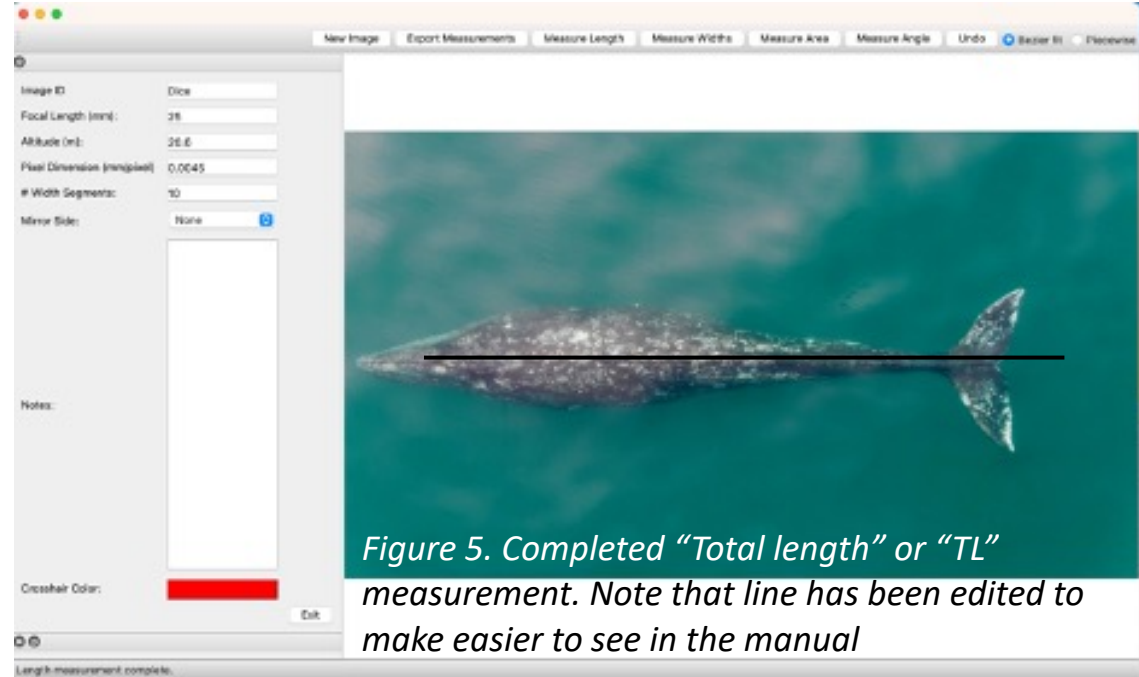
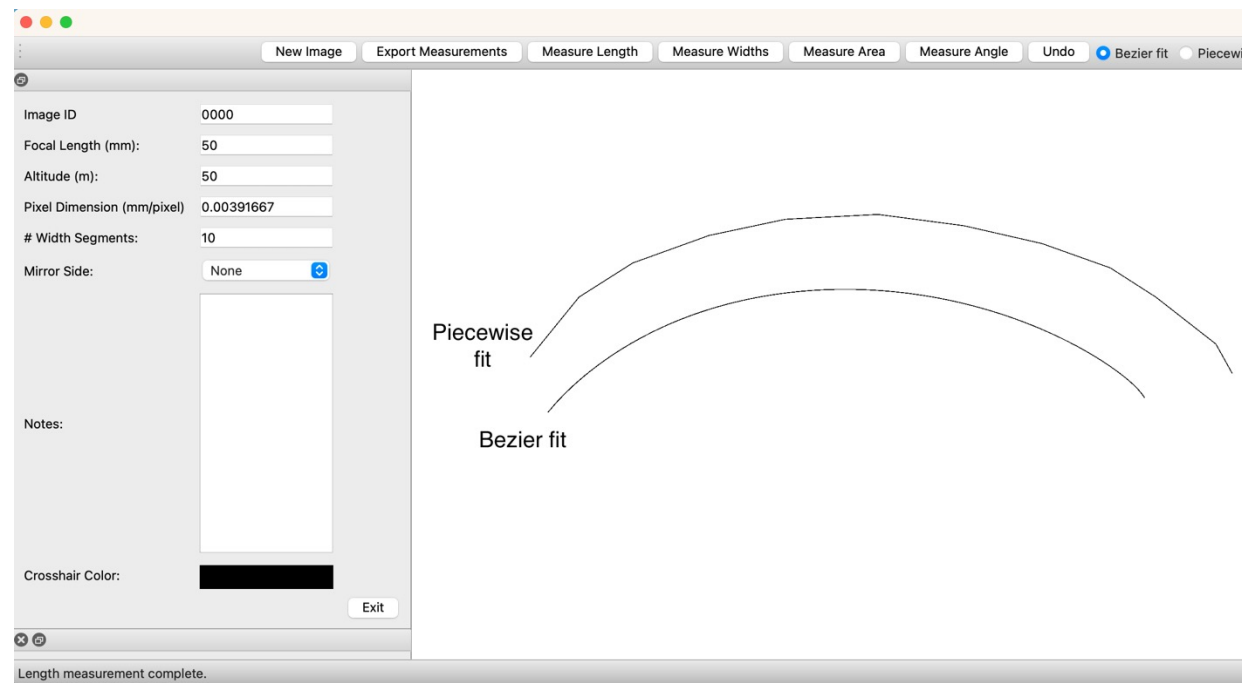

Figure 5. Completed "Total length" or "TL" measurement. Note that line has been edited to make easier to see in the manual
Figure 6. An example of a Piecewise vs. Bezier fit.
- In the upper right-hand corner, you can specify if you want to apply a Bezier fit or Piecewise fit to the length measurement (Figure 5). The Bezier fit is especially useful if the animal is curved, as it will apply a smooth fitting curve to a length measurement with 3 or more points (Figure 6).